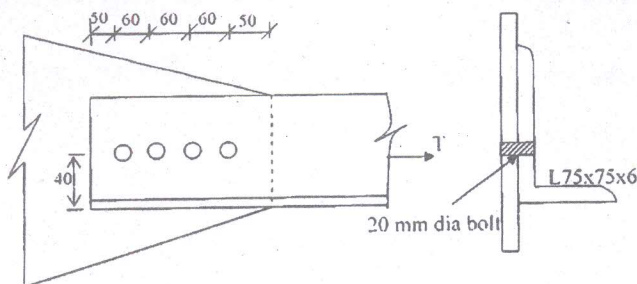

Fig. 3
13. A single unequal angle, 75 × 75 × 6 is connected to a 8-mm thick gusset plate at the ends with four 20-mm diameter bolts to transfer tension as shown in Fig. 3. Determine the design tensile strength of the angle. Assume that the yield and the ultimate stress of steel used are 250 MPa and 410 MPa respectively.